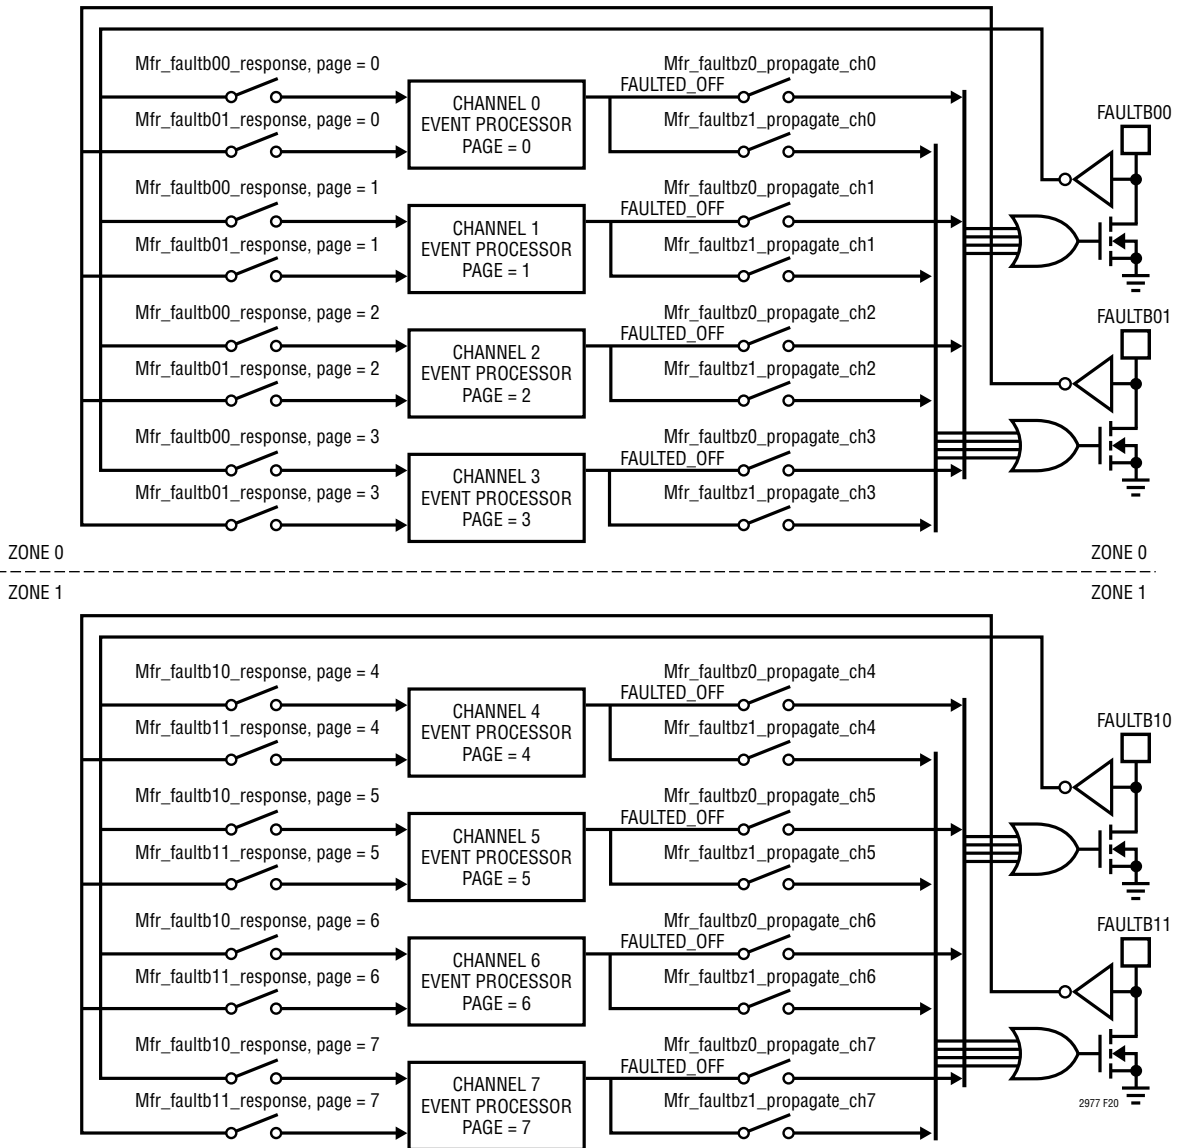

Figure 20. Channel Fault Management Block Diagram
Multichannel fault management is handled using the bidirectional FAULTBzn pins. The “z” designates the fault zone which is either 0 or 1. There are two fault zones in the LTC2977. Each zone contains 4-channels. Figure 20 illustrates the connections between channels and the FAULTBzn pins.
- PWRGD reflects the status of the outputs that are mapped to it by the MFR\_PWRGD\_EN command. Figure 20 shows all the PWRGD pins connected together, but any combination may be used.